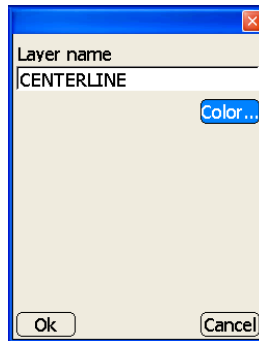

Figure 3-75. Layers Dialog Box
- **New**: on the **Layers** dialog box, press **New** to create a layer, then press **Ok** to save the information (Figure 3-75). Enter a layer name and select it's color, then press **Ok** to save.